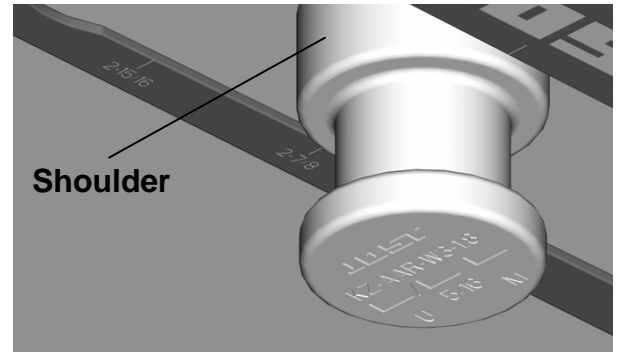

FIGURE 2
- Repeat the above procedure using the large slot on the shoulder of the Kingpin (see figure 2).